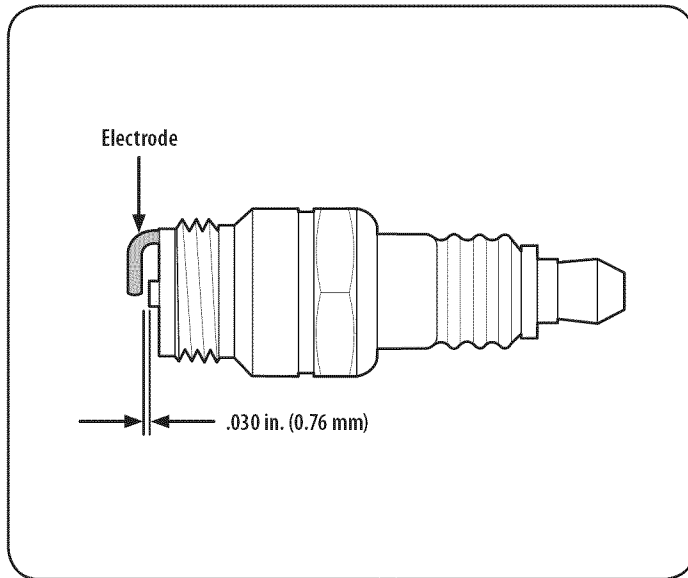

Figure 28
3. Measure the plug gap with a feeler gauge. Correct as necessary by bending the side electrode, see Figure 28. The gap should be set to .02-.03 inches (0.60-0.80 mm).